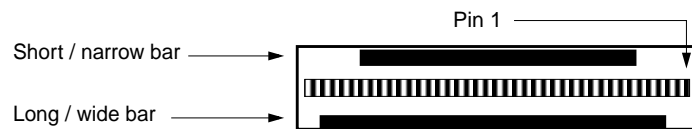
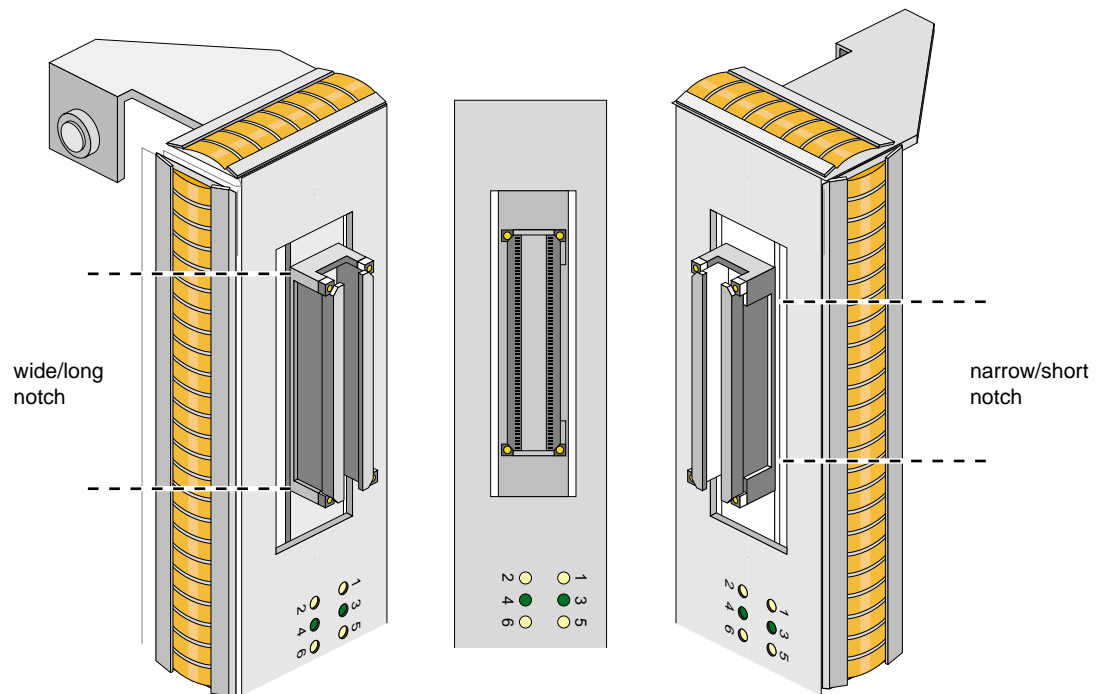

Figure 2-2 GSN Key for Cable or Loopback Device Connectors
Figure 2-3 GSN Key for Panel Plate Receptacle
- The cable or loopback device's connector and the receptacle on the panel plate are keyed to ensure proper insertion. The key consists of two parallel bars of metal inside the connector (one long piece and one short piece, as illustrated in Figure 2-2) that fit into two notches inside the receptacle (illustrated in Figure 2-3).